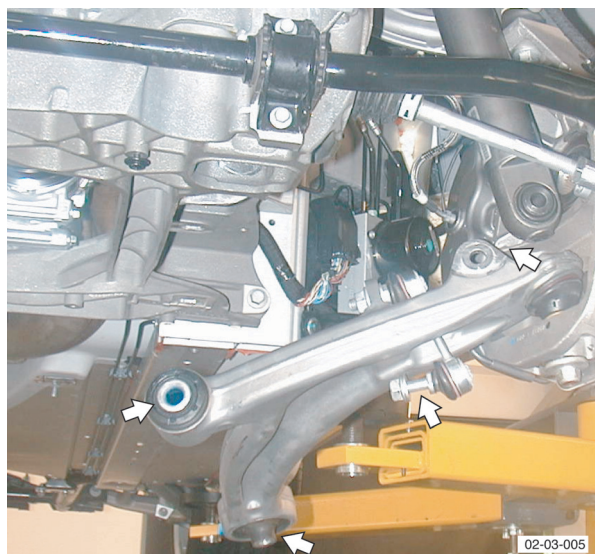

Fig. 2
16. Remove nightspots and cam washers (x4) from lower suspension arms to subframe (see Fig. 2).